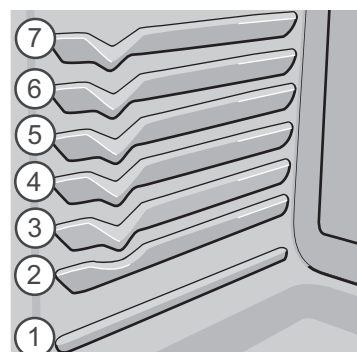

Fig. 2 Oven rack positions
- For best results when baking cakes using two oven racks, place racks in positions 3 and 6. (Figure 2)